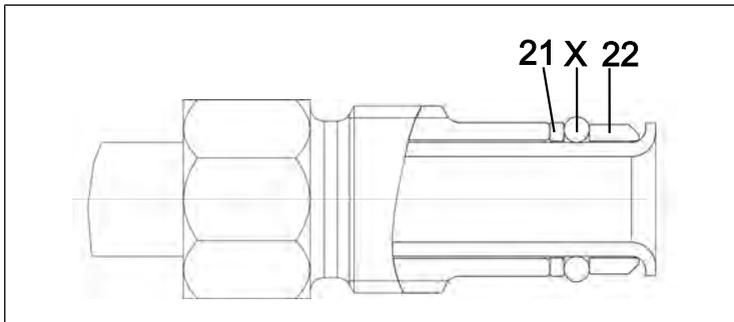

Fig. 31: Correct position of O-ring
2. Change the O-rings (16) and (17) on the separator hose connection (11).
3. Change the O-ring (15) on the high-performance condenser hose connection (12).
**i** When changing the O-rings, make sure that the new O-rings are positioned correctly (between sleeve (22) and sliding washer (21); see Fig. 31).